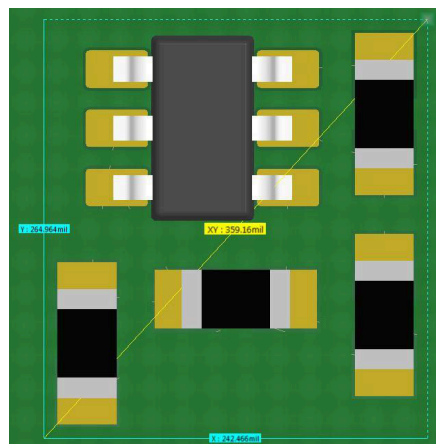

Figure 2-2. TPS3701 Example Layout
- **TPS3701:** wide Vin voltage detector can monitor voltages up to 36 V and provides 0.25% typical monitoring accuracy. The size of the 6-pin SOT package is 2.9 mm x 1.6 mm and only requires three external resistors to set the fault threshold and at least one external pull-up resistor for the open-drain output as shown in Figure 2-2. The TPS3701 provides both undervoltage and overvoltage monitoring in a convenient single device solution.